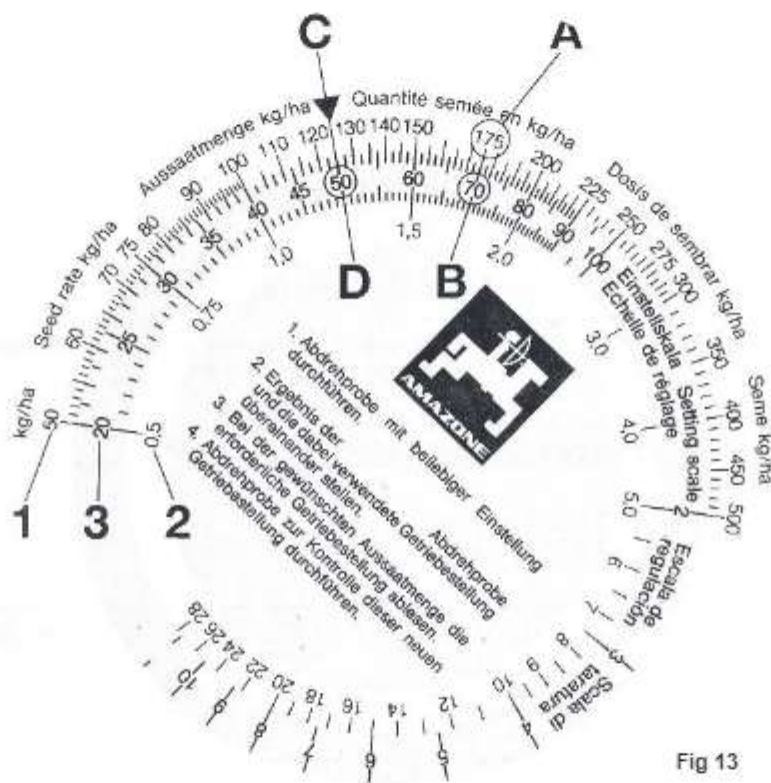

Fig 13
Usually the first calibration test yields a different seed rate. However with the value determined from the first test it is possible to determine the correct gearbox setting with the aid of the enclosed disc calculator (Fig 13). The disc calculator consists of 3 scales. An outer white scale (1) for all seed rates above 30 kg/ha and an inner scale (2) for all seed rates below 30 kg/ha. On the middle coloured scale (3) are all the gearbox setting numbers to a maximum value of 100.
- 2 Turn the inner disc until the measured seed rate of 175kg/ha (A) is in line with the related actual gearbox setting of "70"(B) (Fig 13).
- 3 Read off from the disc rule the necessary gearbox setting for the required seed rate of 125kg/ha (C). In this example the correct setting is "50" (D) (Fig 13).
For determining the correct gearbox setting after the speed change, conduct the first test at 50. With the weight of seed collected find your correct setting with the aid of the disc calculator; refer Page 25, Fig 13.